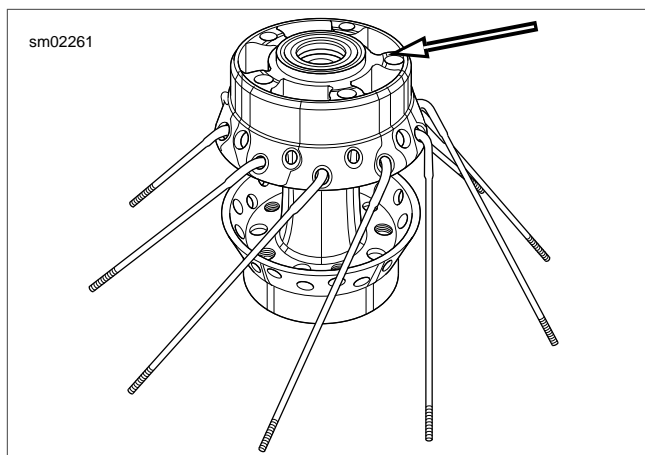

Figure 2-21. Hub: Primary Brake Disc Side Up
- See Figure 2-21. Place hub on table with primary brake disc side up. Insert a spoke in each hole of **lower** row as shown in the figure. Angle spokes clockwise.